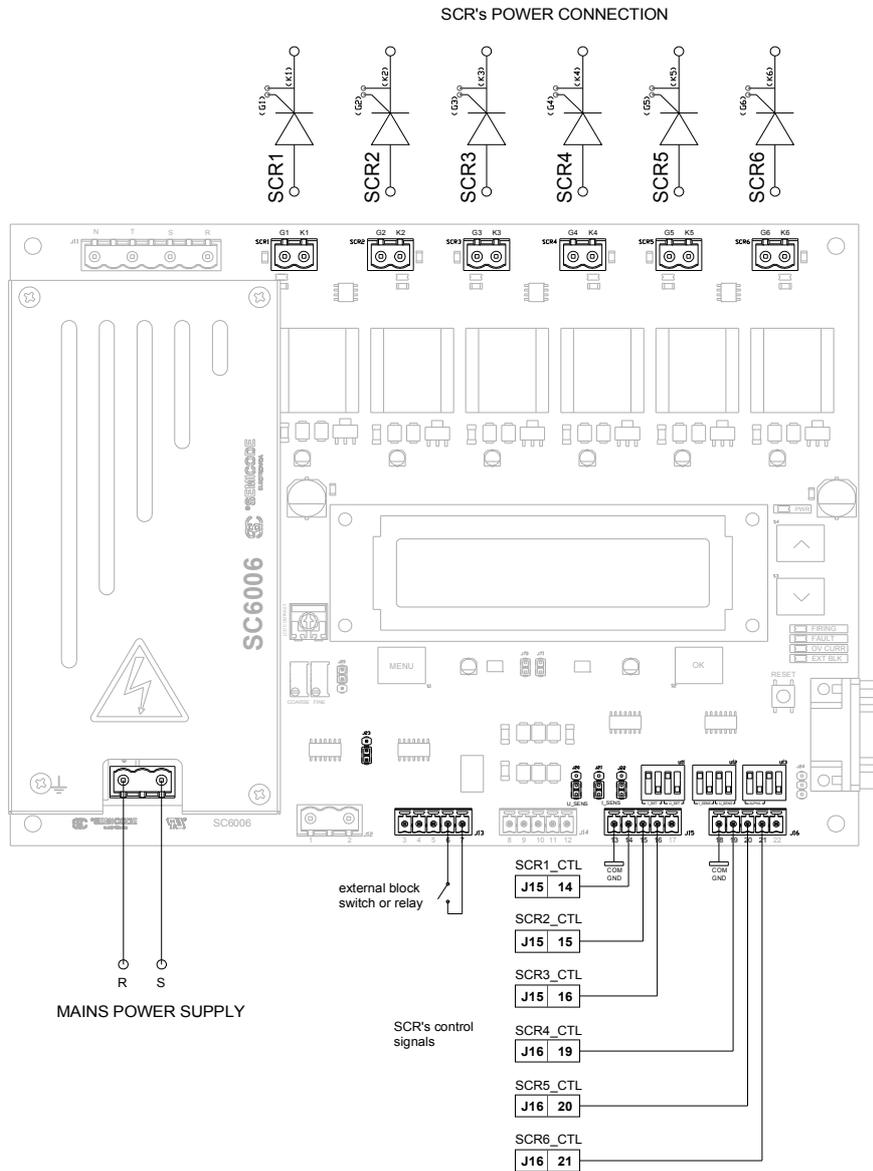

figure 36: 'DRV' mode recommended application circuit.
Following you will find a walkthrough to set up this operation mode according the circuit example given at figure 36.
- a) Power OFF the SC6006 and connect all SCR output power connectors as shown in figure 36.